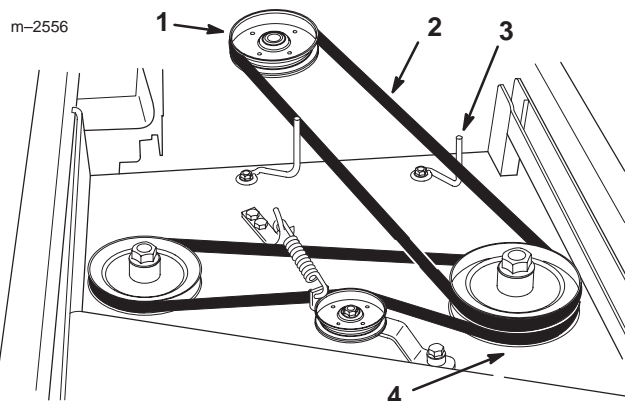

Figure 27
4. Remove the worn drive belt (Fig. 27).
5. Install the new drive belt onto the traction unit drive pulley and the top groove of the left spindle pulley (Fig. 27).